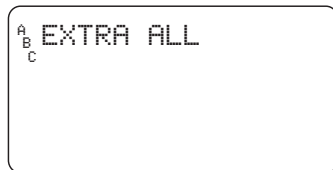

Figure 17:
3. Continue to press the **NEXT** button until you see “A B C Extra All” [See Figure 17].